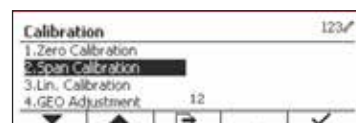

Figure 8
2. Press the softkey corresponding to the ✓ icon to enter the Calibration submenu. (See Figure 8)